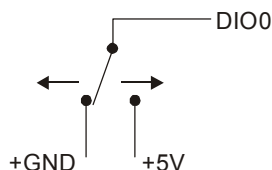

Figure 11. Schematic showing switch detection by digital channel DIO0
When you configure the digital bits for input, you can use the RedLab TEMP digital I/O terminals to detect the state of any TTL-level input. Refer to the schematic shown in Figure 11. If you set the switch to the +5V input, DIO0 reads *TRUE* (1). If you move the switch to GND, DIO0 reads *FALSE* (0).